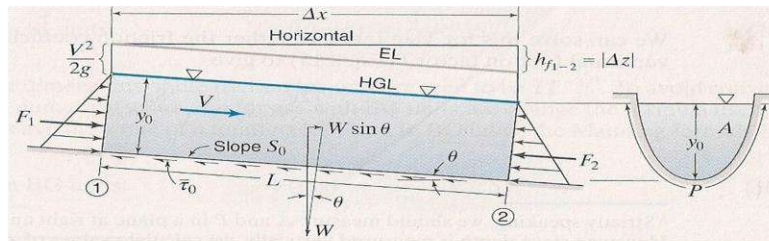

Figure 2.0
• y (depth of water) and v (velocity) remain constant along the channel. *Figure 2.0*